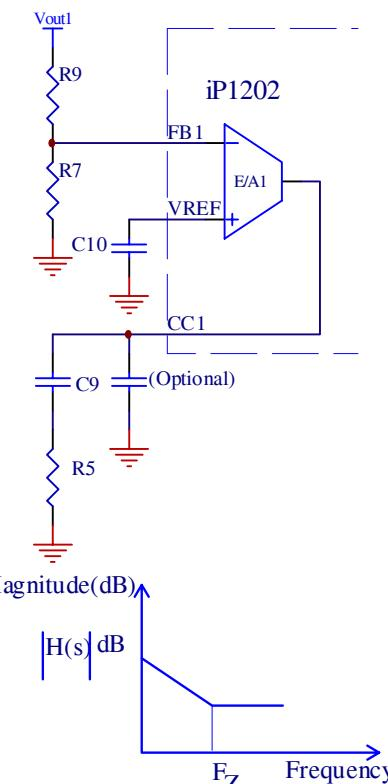

Fig. 18: Typical Type II compensation and its gain plot
From Fig.18 the transfer function  $H(s)$  of the error amplifier is given by (11):
Sometimes, a pole  $f_{p2}$  is added at half the switching frequency to filter the switching noise. This is done by adding a capacitor  $C_{opt}$  in Fig.18 from the output of the error amplifier (CC pin of iP1202) to ground. This pole is given by equation (16):